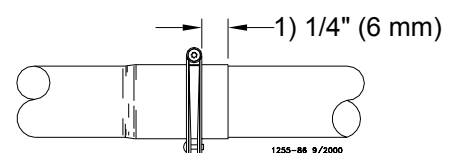

Figure 25. Clamp Installation
Figure 25 shows the proper clamp location on the tube joint. *Do not tighten the clamp at this time.*
- make sure the clamps are located, as shown in **Figure 25**.